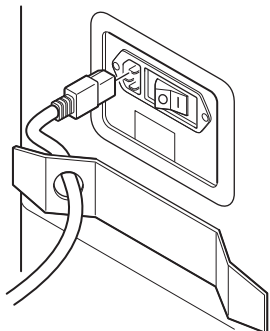

Figure 13 Power Cord Strain Relief
1. Connect the rover to facility electrical power using the power cord. Thread the appropriate plug of the power cord through the strain relief hole before connecting the cord to the rover (see figure 13).